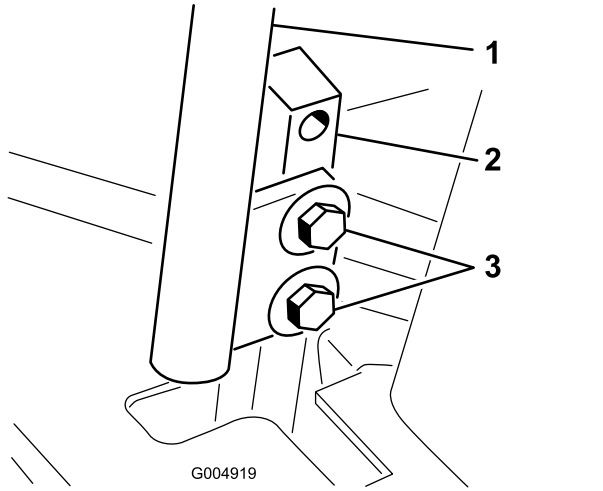

Figure 56
3. Loosen the bolts securing the control levers (Figure 56).